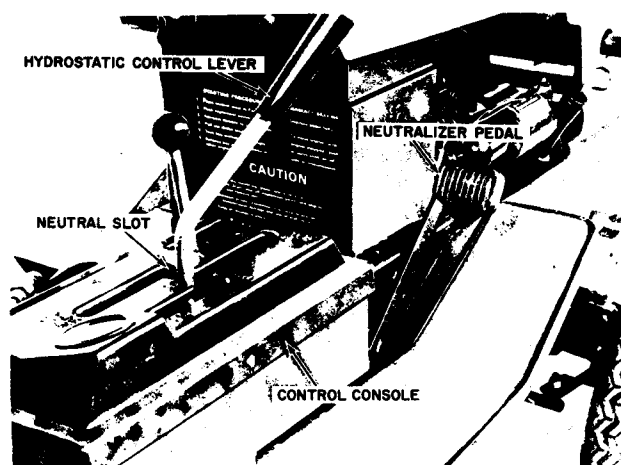

FIGURE 19
The hydrostatic controls should be adjusted so the tractor does not creep forward or backward when the control lever is in the neutral (N) slot in the control console as shown in Figure 19. In addition, the control lever should automatically be shifted to this position from either "forward" or "reverse" when the neutralizer pedal is fully depressed.